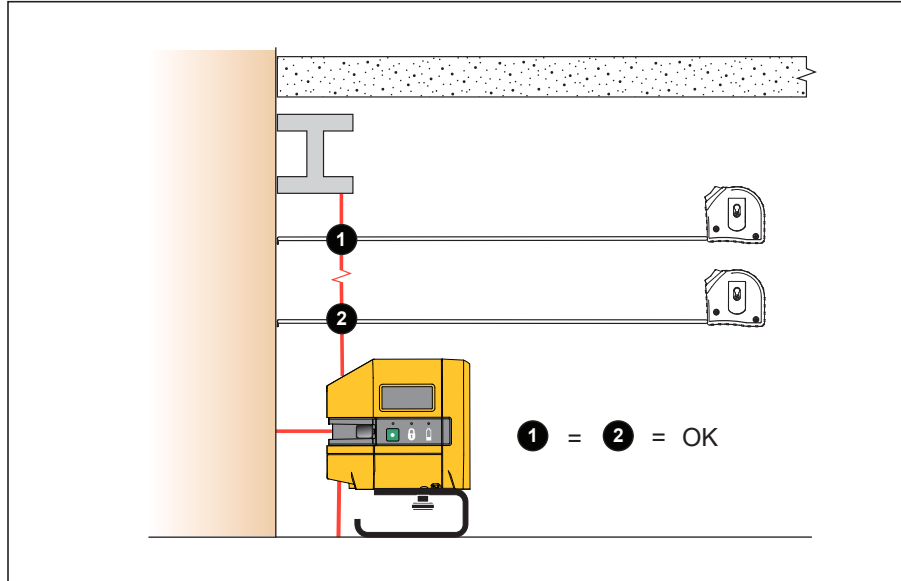

Figure 5. Existing Item Plumb Check
2. Measure the distance from the item to the laser at various distances from the Product. See Figure 5.